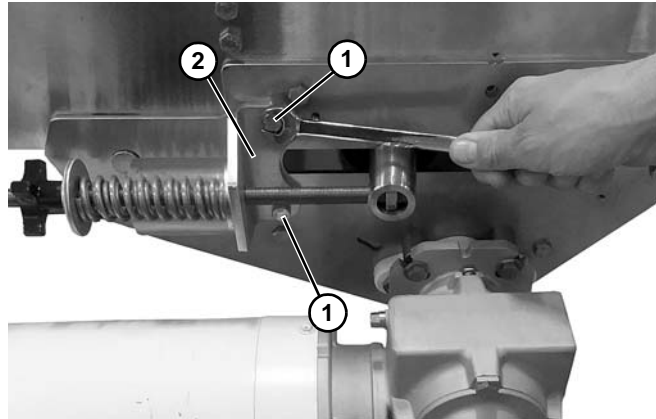

Figure 57
13. Remove two screws (Figure 57, item 1) from plate (Figure 57, item 2) on both sides of the center drive.